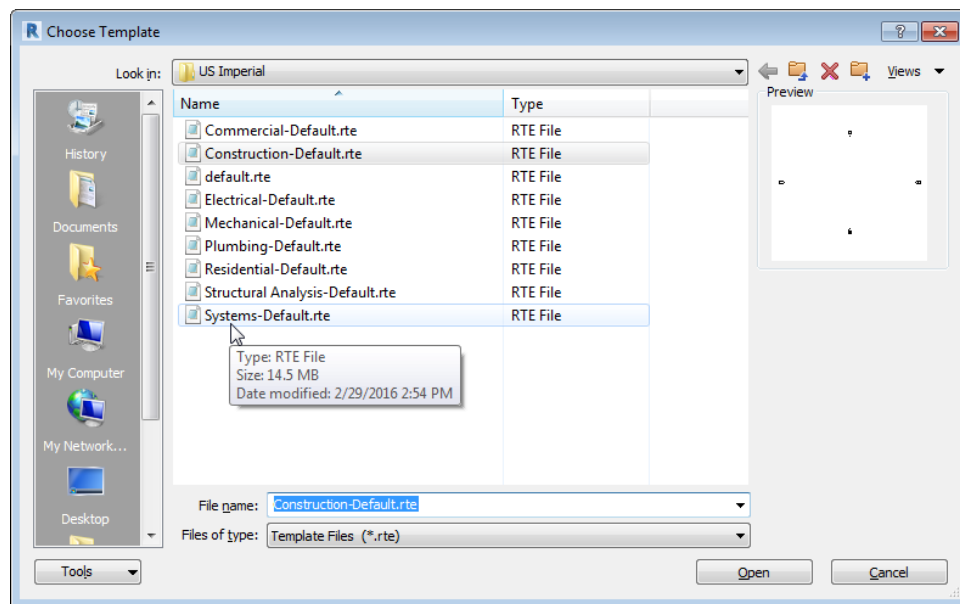

Figure 2-28 Selecting the *Systems-Default.rte* file from the **Choose Template** dialog box
2. In the **Choose Template** dialog box, select the **Systems-Default** template file from the list, as shown in Figure 2-28. For Metric system, select the **Systems-Default_Metric** template file from the list. Choose the **Open** button the **Choose Template** dialog box is closed.